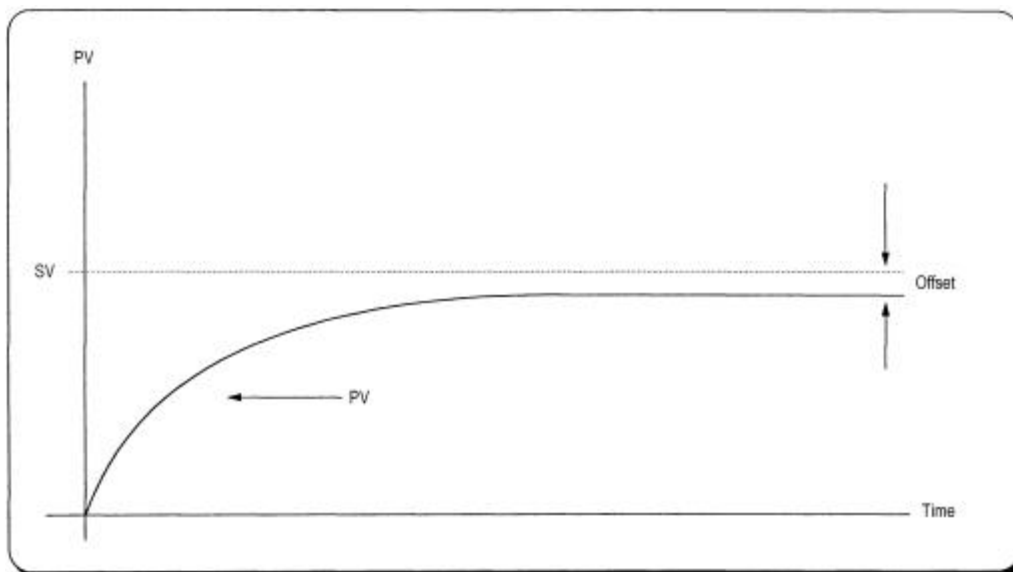

Fig. 15.3 When the proportional constant (K_p) is small
- 4) If the Kp is too small, oscillation will not occur. However, the PV reaches to the SV slowly and an offset may appear between PV and SV shown in the Fig. 15.3
- 5) The manipulation value (MV) varies from 0 to 40,000. User can define the maximum value of MV (MV_MAX) and the minimum value (MV_MIN) within the range 0 ~ 40,000.